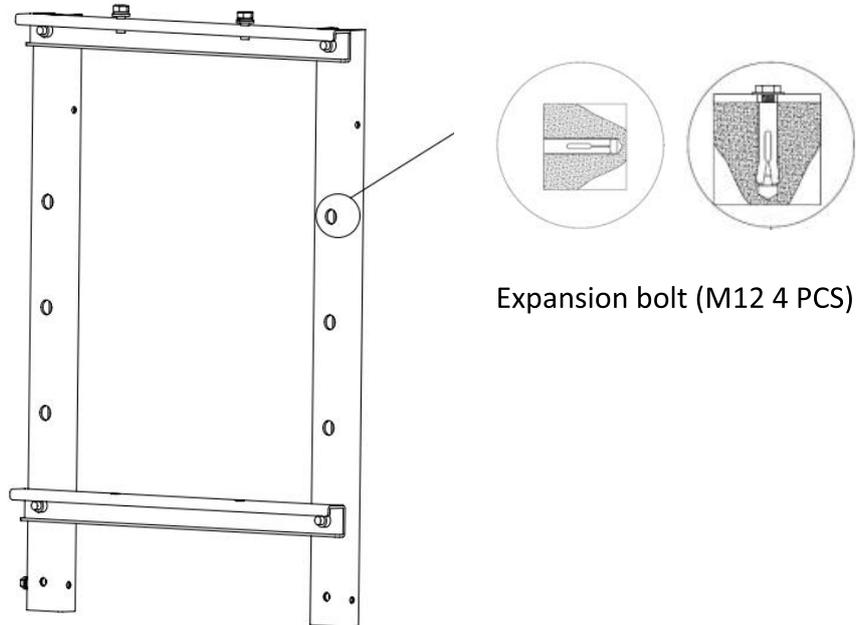

Figure 3.4.3-H
(2) Use 4 M10 bolts secure cabinet and structural component. As shown in **Figure 3.4.3-I**.